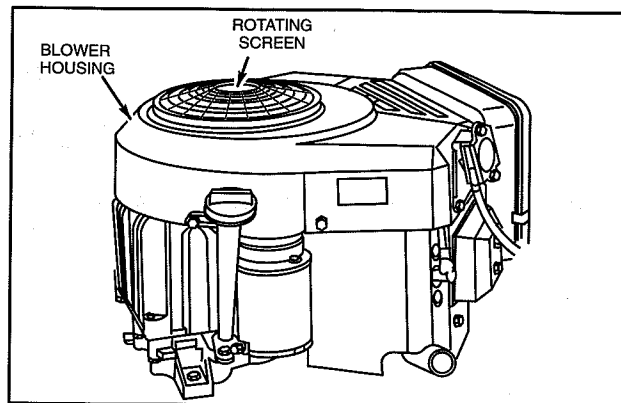

Fig. 1 - Remove Armature
1. Remove rotating screen and blower housing, Fig. 1.